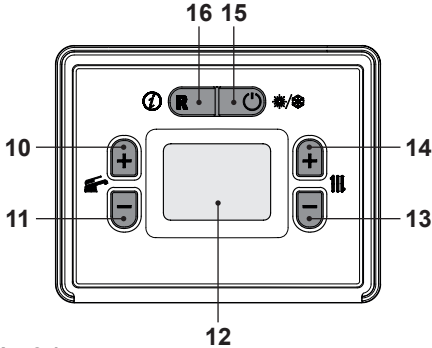

Fig. 8.17
- By using buttons 13 or 14 (Fig. 8.17) it is possible to modify the value of parameter A52:
- Press 10 or 11 (Fig. 8.17) to confirm the value entered and return to the list of parameters (Fig. 8.18).
- Press the 15 button (Fig. 8.17) to exit “programming mode”.